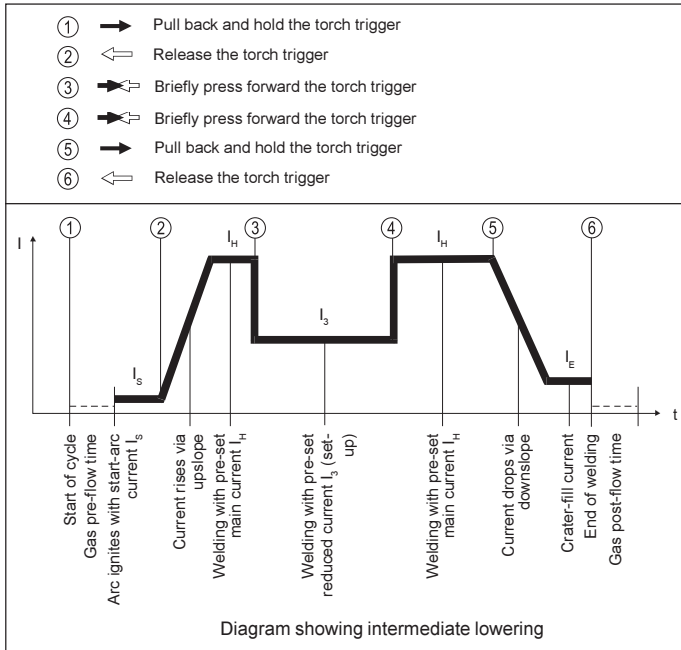

Fig. 5 Functional sequence in special 4-step mode - Variant I
**Special-4-step mode - Variant I (Fig.5)**